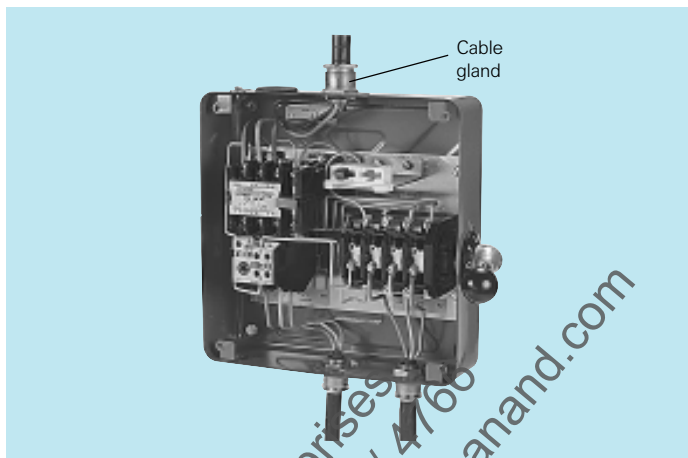

Fig. 15: Connection of incoming and outgoing cable, using cable glands.
- Connect incoming and outgoing cables as follows (fig. 15):